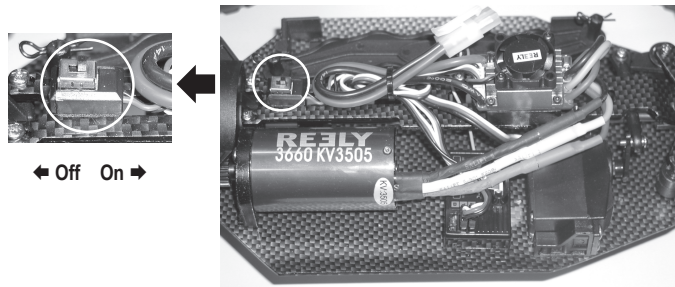

Figure 2
Switch on the speed controller (see chapter 9 g, figure 2) now check the drive and steering function of the vehicle.
- Once the vehicle is stationary, remove the car body and switch off the speed controller (switch position see chapter 9. g, figure 2).